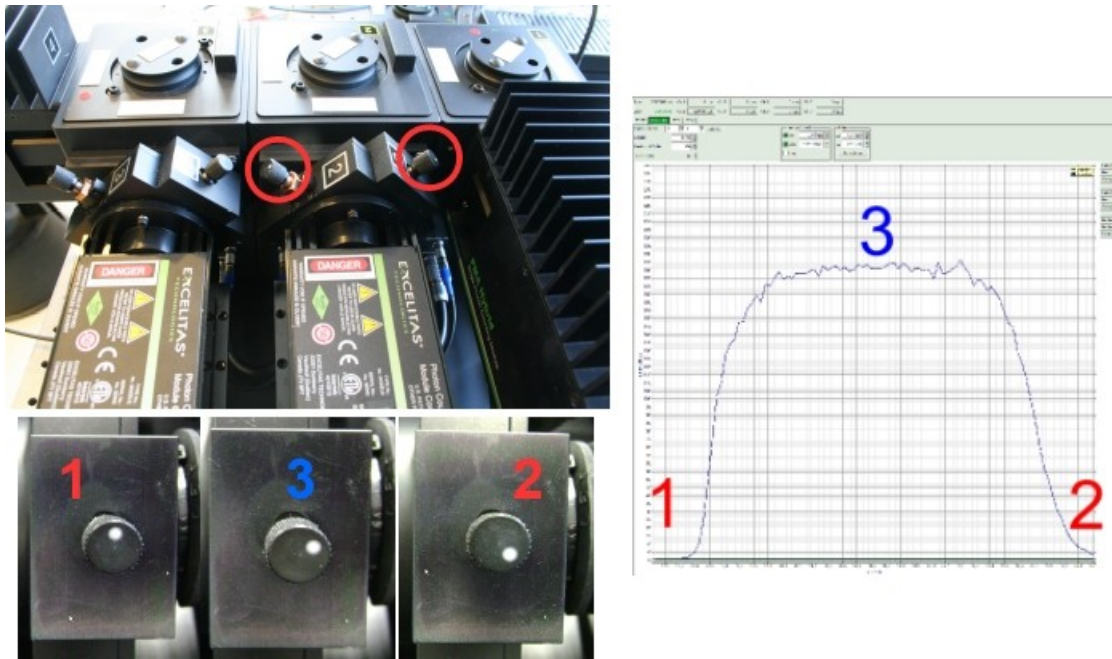

Fig. 7.1: Different positions of the SPAD-XY lens position knobs (displayed on the left) result in an intensity plateau of the active detector area
9. Turn one of the XY SPAD lens position knobs back and forth. You should observe an intensity plateau with steep edges (SPCM-SPAD modules have a large active area), see Fig. 7.1